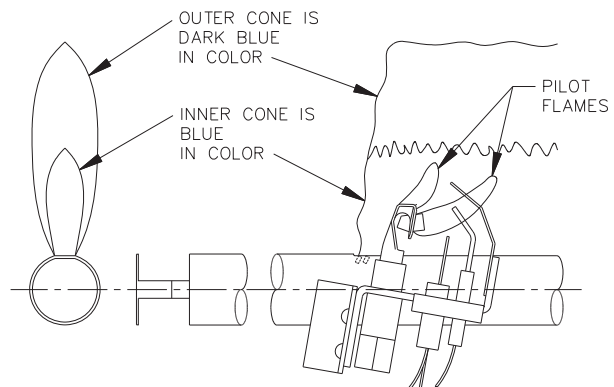

Figure 8.3: Intermittent Pilot and Main Burner Flame
3. Check the pilot and main burner flame. See Figure 8.3. The pilot should provide a steady flame enveloping $3/8"$ to $1/2"$ (1 cm to 1.2 cm) of the flame sensor. If required, adjust the pilot as stated in the gas valve manufacturer's instructions. The main burner flame inner cone should be approximately $1-1/2"$ (4 cm) high and should have a very sharp, blue color characteristic.